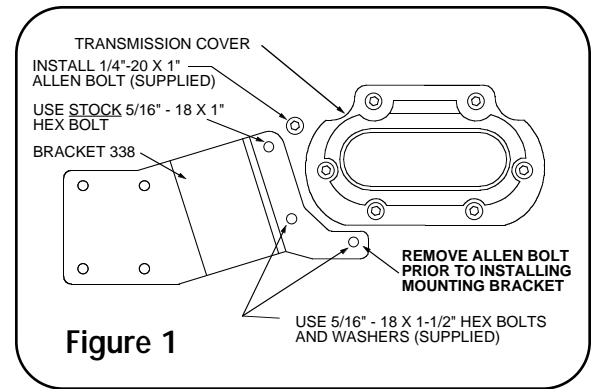

Figure 1
8. Remove bolt below left side of the transmission cover. Position mounting bracket 338 over mounting location to determine which bolt will be removed. (Figure 1).
1. Attach mounting bracket 338 (supplied) to transmission using stock bolt in top hole. Install two 5/16" x 1-1/2" hex bolts and 5/16" flat washer combinations in remaining two holes. (hardware supplied). (Figure 1)
2. Replace unused stock mount bolt with 1/4"-20 x 1" Allen head bolt. (hardware supplied). (Figure 1)